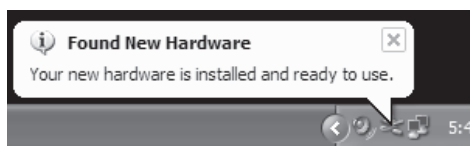

Figure 8
2. When it is finished installing the drivers, it will say "Your new hardware is installed and ready to use" (Figure 8). Note: This balloon tip will not pop up again for the same USB port.